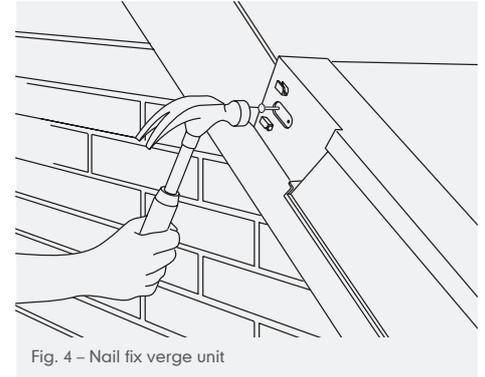

Fig. 4 – Nail fix verge unit
- 10 Fix the verge unit to the tiling batten through the batten end clips with the ring-shank nails provided (Fig. 4)